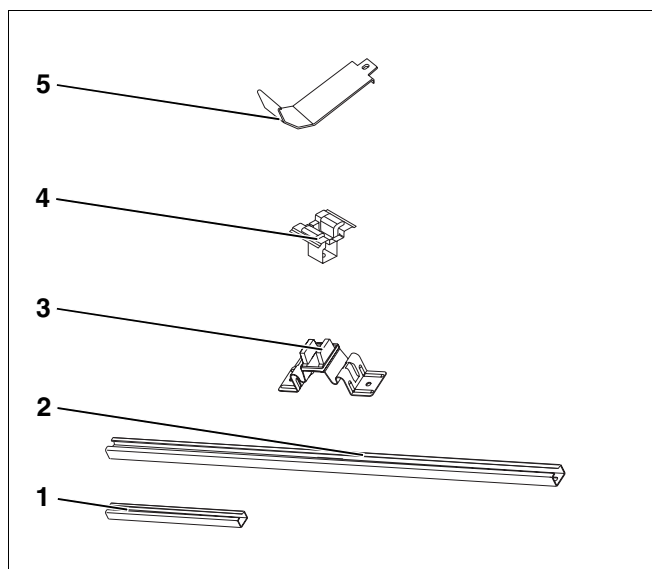

Fig. 3 Extension set
4.2.2 Extension kit (for each additional collector) – Fig. 3